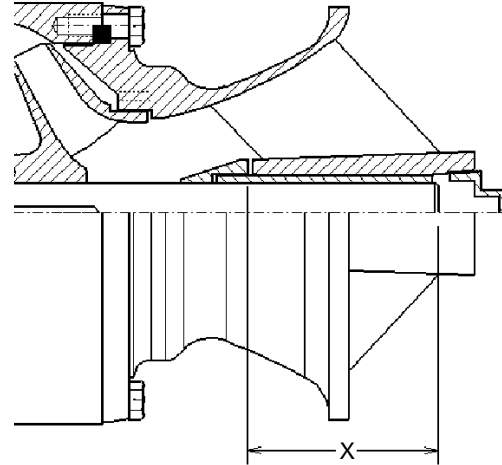

Figure 14
5. Insert a screwdriver into the slot in the taperlock (677) spread the slot and slide the taperlock over the pump shaft. Hold the impeller against bowl and slide the taperlock into the impeller hub. **Be sure the taperlocks have been cleaned and are dry.**
6. Hold impeller firmly against the suction bowl/bell and drive the taperlock into place with a taperlock driver, (See Figure 14). After the impeller is secured in position, the top end of the taperlock should be 1/8" above the impeller hub.